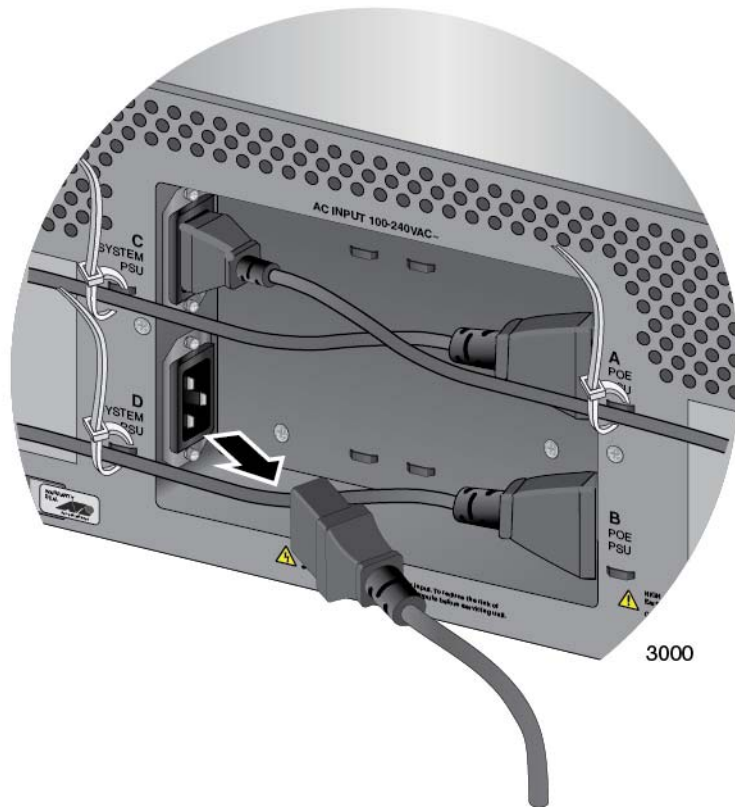

Figure 147. Disconnecting the AC Power Cord from the AC Socket on the Back Panel
1. Disconnect the AC power cord for the power supply from the AC power source and the corresponding AC socket on the back panel of the chassis. The figure in Figure 147 on page 239 shows the removal of the power cord from connector D, which powers off the power supply in slot D on the front panel.